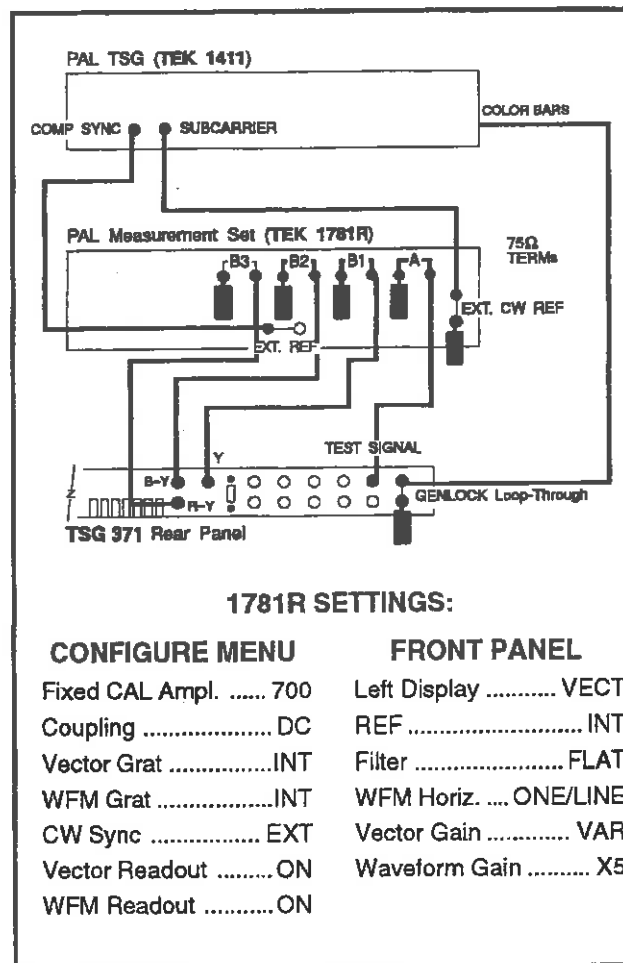

Fig. 5-18 Reference Setup for Procedures 4 through 14.
Steps 4 Through 17 Share the Same Basic Equipment Setup and Settings. This Reference Setup is Shown in Fig. 5-18.
- Begin with the 1781R Reference Setup (Fig. 5-18). Select WFM display and CH A input.
5. Channel 1 (Y)
- Begin with the 1781R Reference Setup (Fig. 5-18). Select WFM display and CH B1 input (Y).
- Begin with the 1781R Reference Setup (Fig. 5-18). Select WFM display and CH B2 input (B-Y).
- Begin with the 1781R Reference Setup (Fig. 5-18). Select WFM display and CH B3 input (R-Y).
- Begin with the 1781R Reference Setup (Fig. 5-18). Replace TEST SIGNAL with BLACK at the CH A input.
- Begin with the 1781R Reference Setup (Fig. 5-18). Replace BLACK with TEST SIGNAL on CH A. Select WFM + CAL display and CH A input (TEST SIGNAL).
10. Channel 1 (Y)
- a. Begin with the 1781R Reference Setup (Fig. 5-18). Select WFM + CAL Display and CH B1 INPUT.
- a. Begin with the 1781R Reference Setup (Fig. 5-18). Replace the Test Signal with Black to the CH A input. Select WFM + CAL Display and CH A INPUT.
- Begin with the 1781R Reference Setup (Fig. 5-18). Select WFM + CAL Display, Fixed CAL, and CH A INPUT.
18. Channel 1 (Y) Fine Frequency Response
21. Channel 1 (Y) Coarse Frequency Response